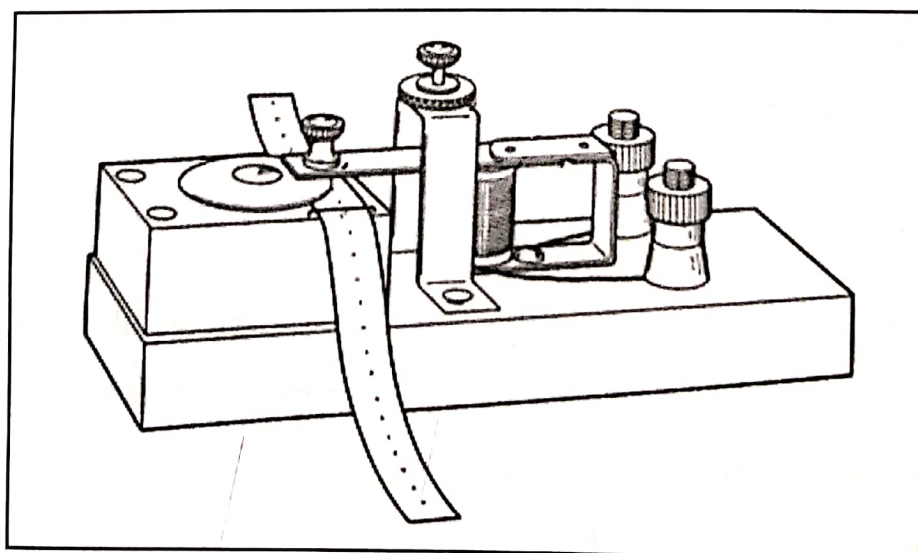

Figure 4.1: Ticker Timer.
In this experiment, you will pull a ~ 1.0 -m long paper tape along a straight line, such that its acceleration is variable both in magnitude and direction, and you will analyze the resulting motion. A record of the tape's motion as a function of time is obtained with the help of a device for measuring time called a *ticker timer*, shown in Figure 4.1 below. It is an electrical device that has a little screw-shaped hammer that vibrates vertically at a rate of 50 Hz. The tape is threaded through the device and under a carbon disc placed right below the hammer. As the tape is pulled through while the ticker timer is on, the hammer strikes the carbon disc at a rate of 50 times each second, leaving a dot on the tape with each strike. The distance between two dots on the tape is the distance covered by the tape in 0.02 s.
1. Thread a ~ 1.0 m tape through the ticker timer and under the carbon disc. See Figure 4.1.